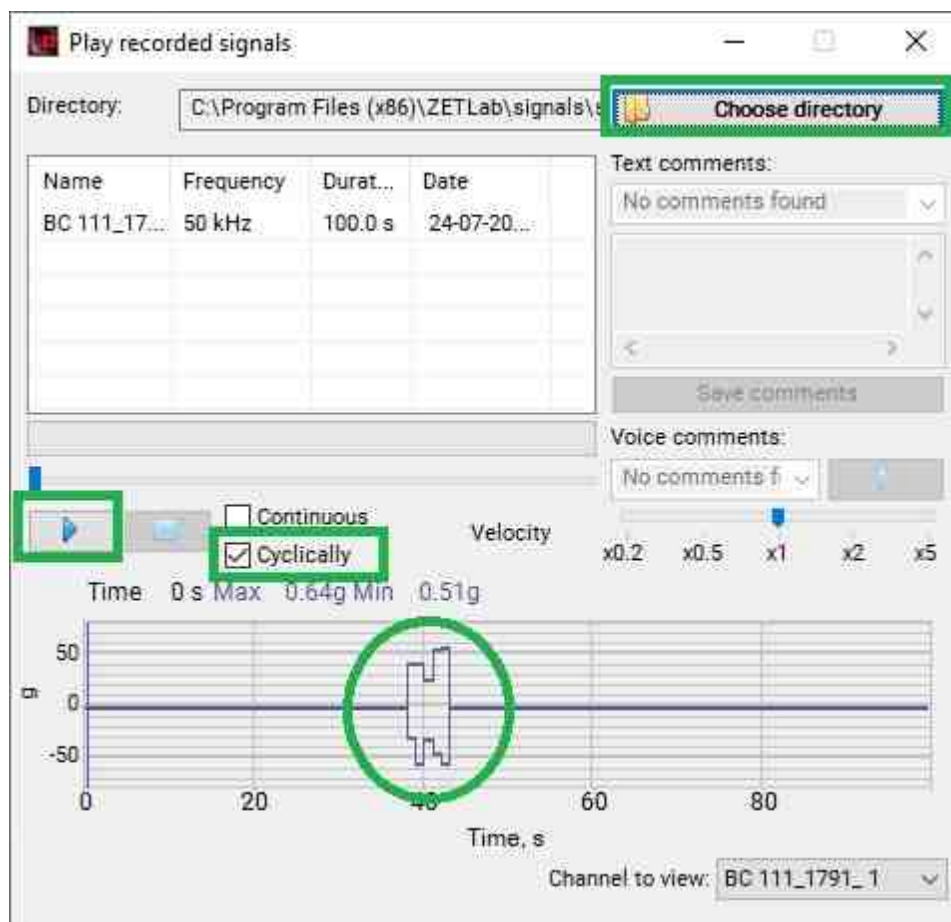

Fig. 1.3 «Play recorded signals» program
4. If it is necessary to analyze and process the temporal realizations of the registered signals in real time, open the "Play recorded signals" program from the "Registration" menu of the ZETLAB panel. In the program window "Signal playback" (*Fig. 1.3*):